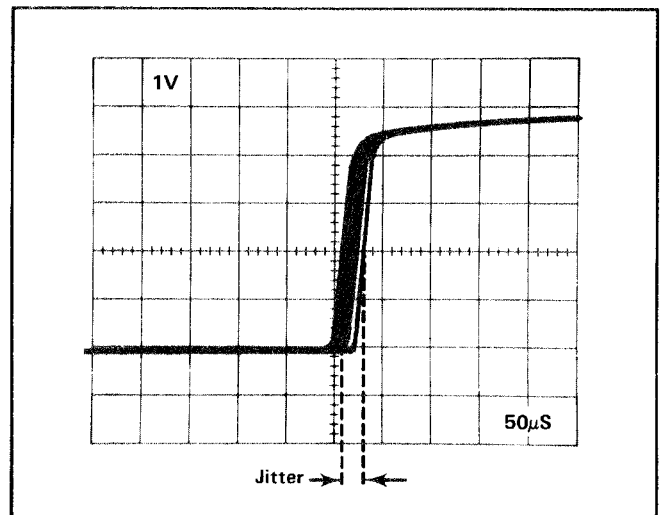

Fig. 1-18. Measuring pulse jitter.
**Example.** Assume that the horizontal movement is 0.5 division (see Fig. 1-18) and the DLY'D Time/Division switch is .5 microsecond.